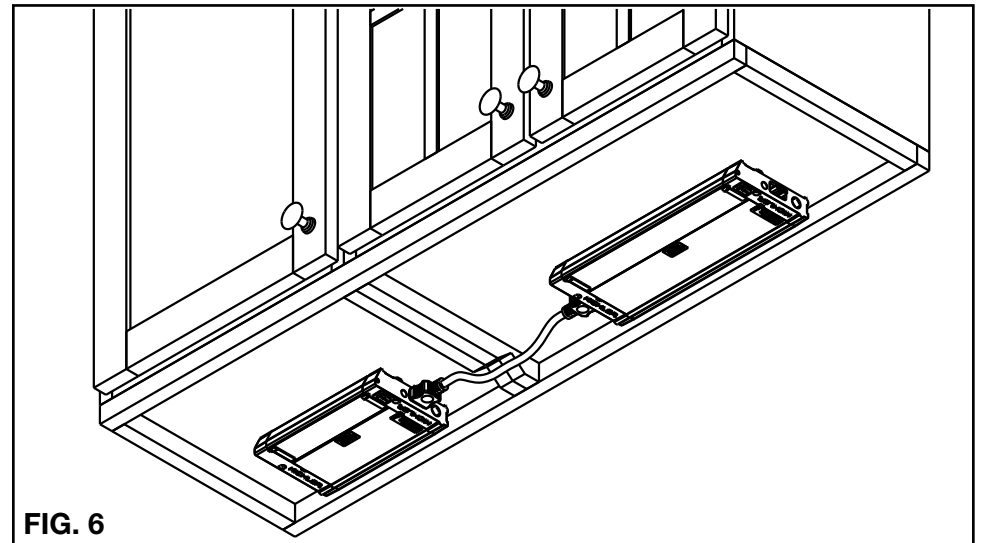

FIG. 6
2. Hold the fixture in the desired mounting location, not more than 21" from nearest interconnected fixture, allowing approximately 2 ½" clearance for interconnect cables. Drive mounting screws into cabinet surface until fixture is secure. If screws are difficult to install, mark holes and drill 1/16" maximum pilot holes. (ref. FIG. 6) **NOTE:** For 22" and 30" fixtures, open wire compartment by inserting flathead screwdriver into the slots and wedging cover open to install center screw. Once installed, swing the cover towards the fixture and close it by pressing at the ends of the cover until the cover snaps into place and is flush with the fixture.